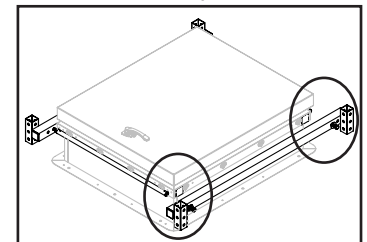
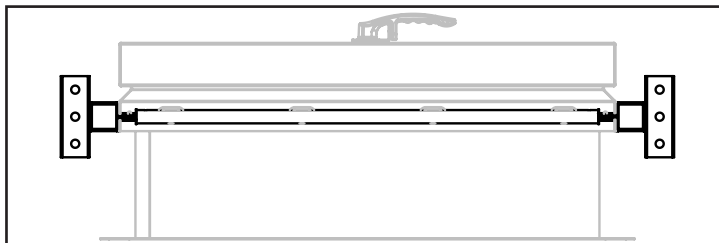

FIG. 4
FIG. 5
3. Install four pieces of 2" x 2" grip tape to the four corners of the roof hatch counterflashing to provide additional friction to hold compression railing in place (Fig. 4). With two people, lift up the entire compression mount assembly onto the counterflash of the roof hatch and hand tighten the bolts. (Fig. 5)